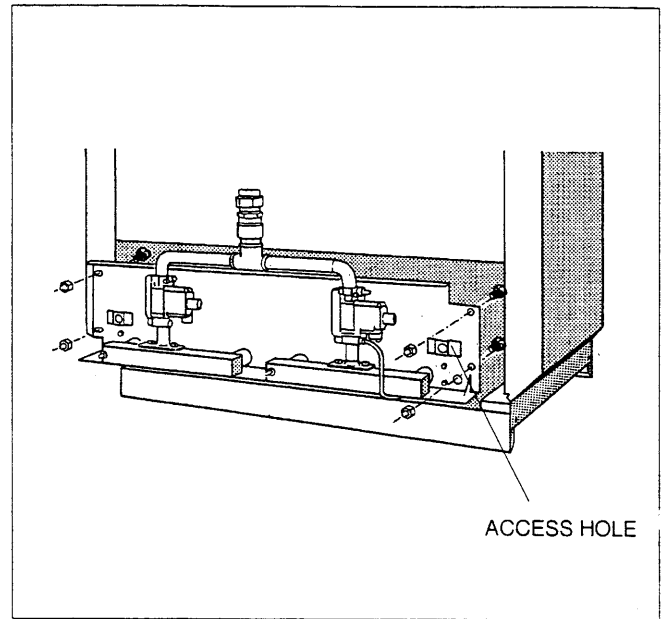

Fig.8
34. Wait five (5) minutes to clear out any gas. Then smell for gas, including near the floor. If you smell gas, **STOP!** Follow "B" in the safety information printed on page 5. If you do not smell gas, go to the next step.
35. Locate the pilot assembly by looking through the access hole in the burner assembly plate, fig.8.